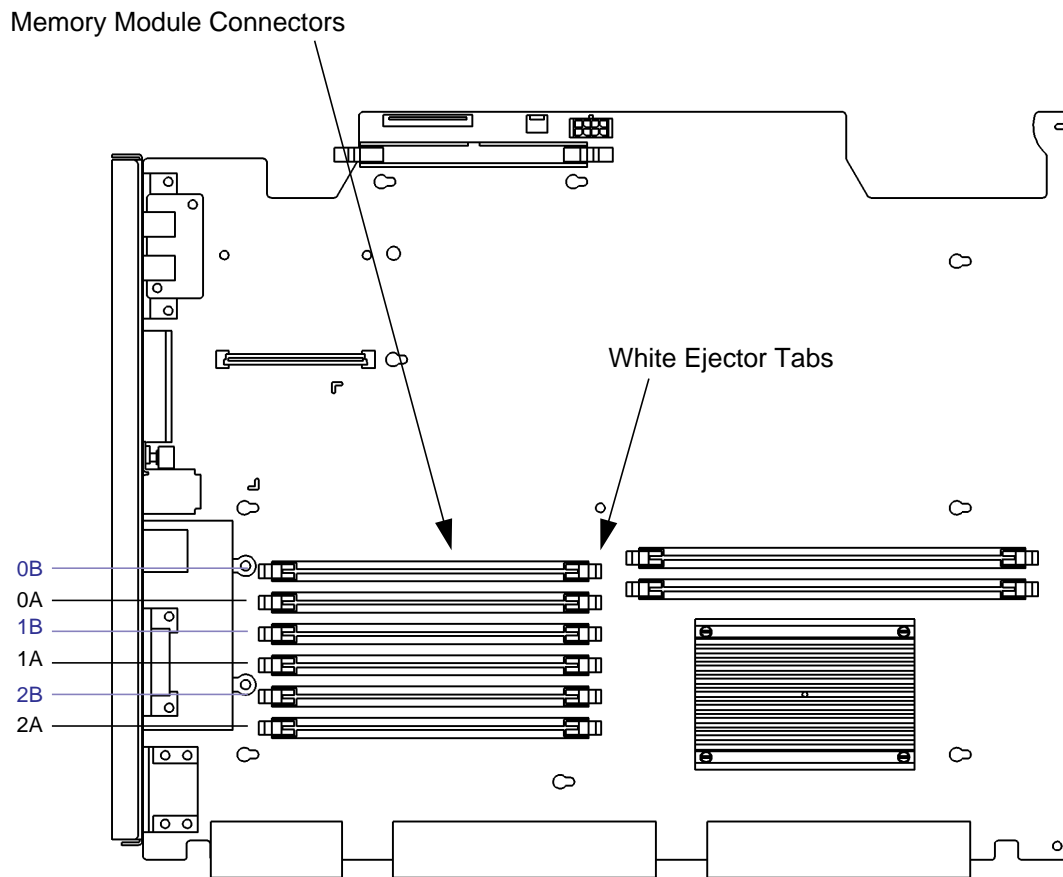

Figure 42 **Memory Module Location**
- Modules should be inserted in the lowest numbered memory pair first then in numerical order. For example, install memory in 0A and 0B first, then 1A and 1B, and 2A and 2B. You must also install the largest memory modules first. For example, install 64 Mbyte module pairs, then 32 Mbyte module pairs, then 16 Mbyte module pairs, and so on. Note that the B180L supports the use of 128 Mbyte modules. Refer to Figure 42 for memory pair numbering and location.
- 1 Locate the memory modules on the CPU board, as shown in Figure 42.